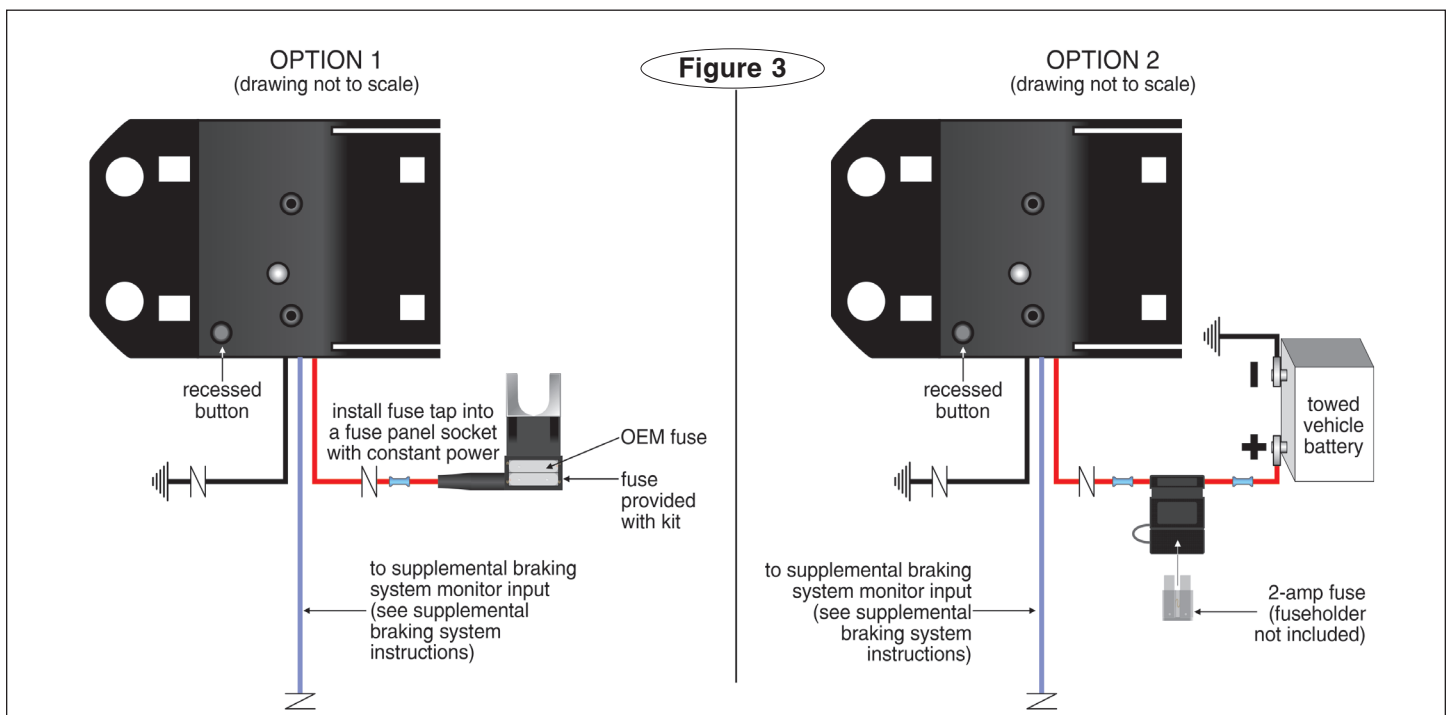

Figure 3
Install the included fuse tap in place of a fuse in the vehicle's fuse panel. Be sure to insert the original fuse and provided 2 amp fuse as shown in Figure 3. Attach the fuse tap to the red wire using one of the included butt connectors.
9. Setting the “home” position: With the brake pedal fully released, use a ballpoint pen or similar tool to press and hold the recessed button (Figure 3) until the LED starts flickering, then release the button. Once the LED stops flickering, the switch has learned its “home” position.